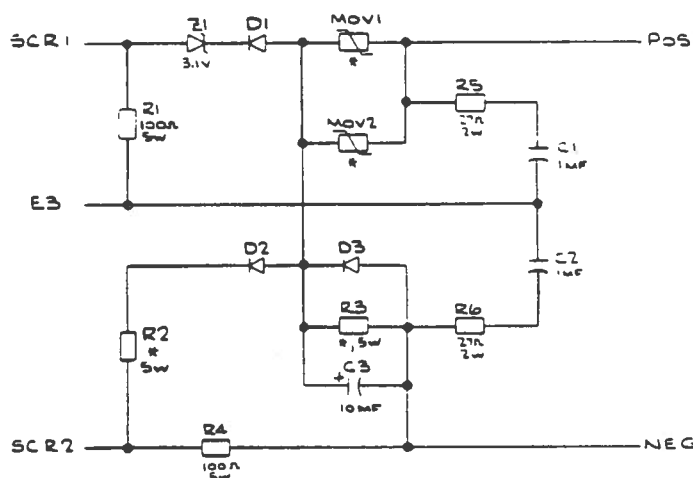

Figure 2. Control Module Schematic.
- Positive to SCR1(G) or SCR1(C) or SCR2(G) or E3.
- Negative to SCR1(G) or SCR1(C) or E3.
SCR1(G) to SCR1(C) and SCR2(G) to SCR2(C) should show 100 ohms resistance. Negative to SCR2(G) will show low resistance. SCR1(C) to E3 and SCR2(C) to negative will show zero resistance. See figure 2 for module schematic.